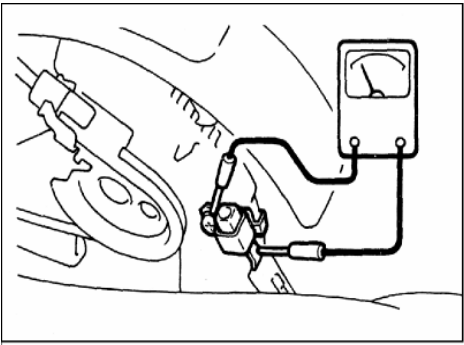

Fig. 16-50
- (1). Remove the floor console.
- (2). Check for continuity between the parking brake switch terminal and the switch mounting bolt.(see Fig.16-50、Table16-10)。